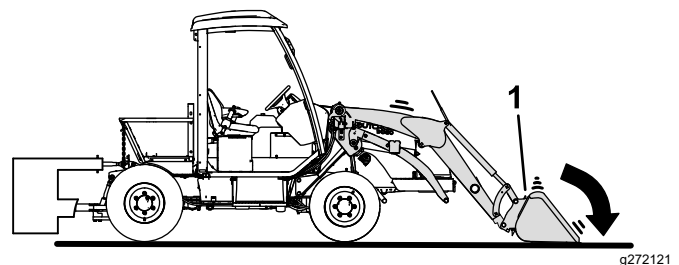

Figure 46
2. Relieve pressure on each loader-arm latch by rotating the loader attachment slightly forward and lowering it to the ground (Figure 46).